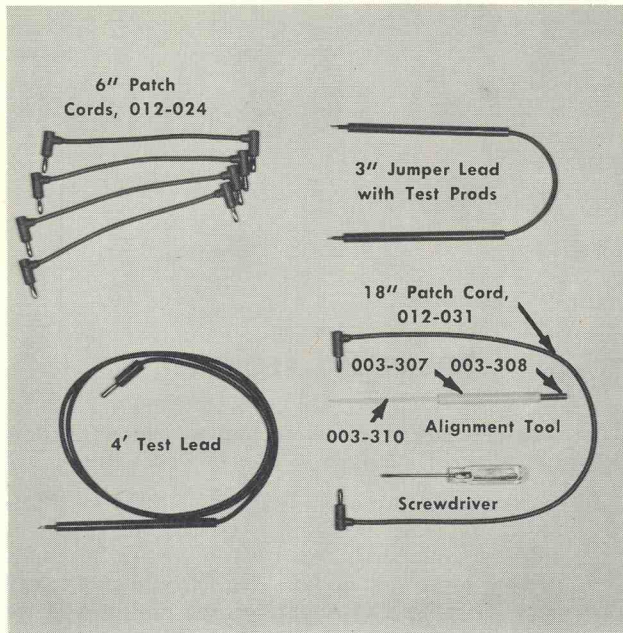

Fig. 5-1. Miscellaneous items.
- (1) Oscilloscope, Tektronix Type 540-, 550-, or \*580-Series, or equivalent. The oscilloscope must be properly calibrated and have a vertical amplifier risetime of 10 nsec or less. Oscilloscope control settings for a Type 541A Oscilloscope are listed in the procedure; corresponding control settings should be used if a different oscilloscope is used.
- (2) Square-wave generator, Tektronix Type 105 or equivalent. Required specifications: 13-nsec or less risetime; output frequencies of approximately 100 cps, 250 cps, 1 kc, 2.5 kc, and 10 kc; output amplitude variable from 10 to 100 volts across a 600-ohm internal load.
- (3) Square-wave generator, Tektronix Type 107 or equivalent. Required specifications: 3-nsec or less risetime; output frequency of approximately 450 kc; output amplitude variable from approximately 0.1 volt to at least 0.2 volt when cable is terminated in 52 ohms.
- (4) Volt-ohmmeter (VOM). Sensitivity of at least 5000  $\Omega/v$  at full deflection.
- (5) 47- $\mu f$  Input Capacitance Standardizer, 4X attenuation, Part No. 011-021.
- (6) Plug-In Extension, Type EP54, Part No. 013-019.
- (7) 50-ohm (nominal impedance) coaxial cable, 42 inches long, Part No. 012-001.
- (8) Two 50-ohm cable terminations, Part No. 011-045.
- (9) 50-ohm 5XT attenuator, Part No. 011-032.
- (10) Tektronix Type P6017 Probe, or equivalent, with a banana plug tip. Required specifications are: band-pass, dc to 20 mc; attenuation, 10X; input capacitance, approximately 14 pf.
- (11) Miscellaneous (see Fig. 5-1):